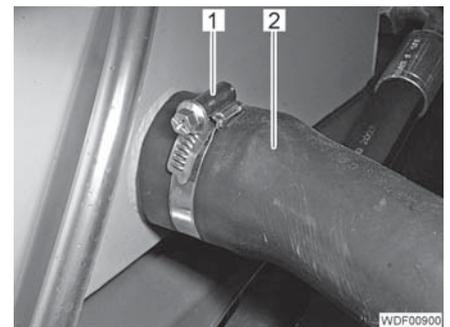

Fig. 81 Cooling hose (top)
- Push the cooling hose (Fig. 81,2) onto the connection on the radiator and tighten the hose clamp (Fig. 81,1).